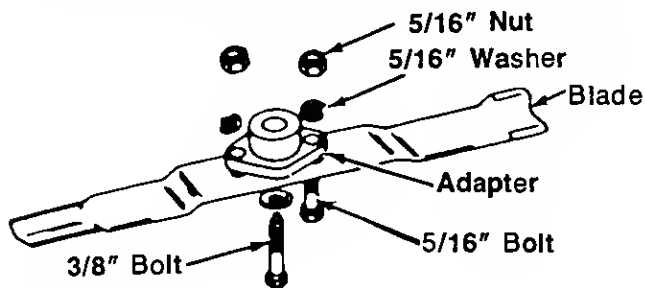

FIGURE 25.
1. Remove the large bolt and lock washer which holds the blade and adapter to the blade spindle. See figure 25.
3. If the blade or blade adapter needs replacing, remove the two small bolts, lock washers and nuts which hold the blade to the adapter. See figure 25.